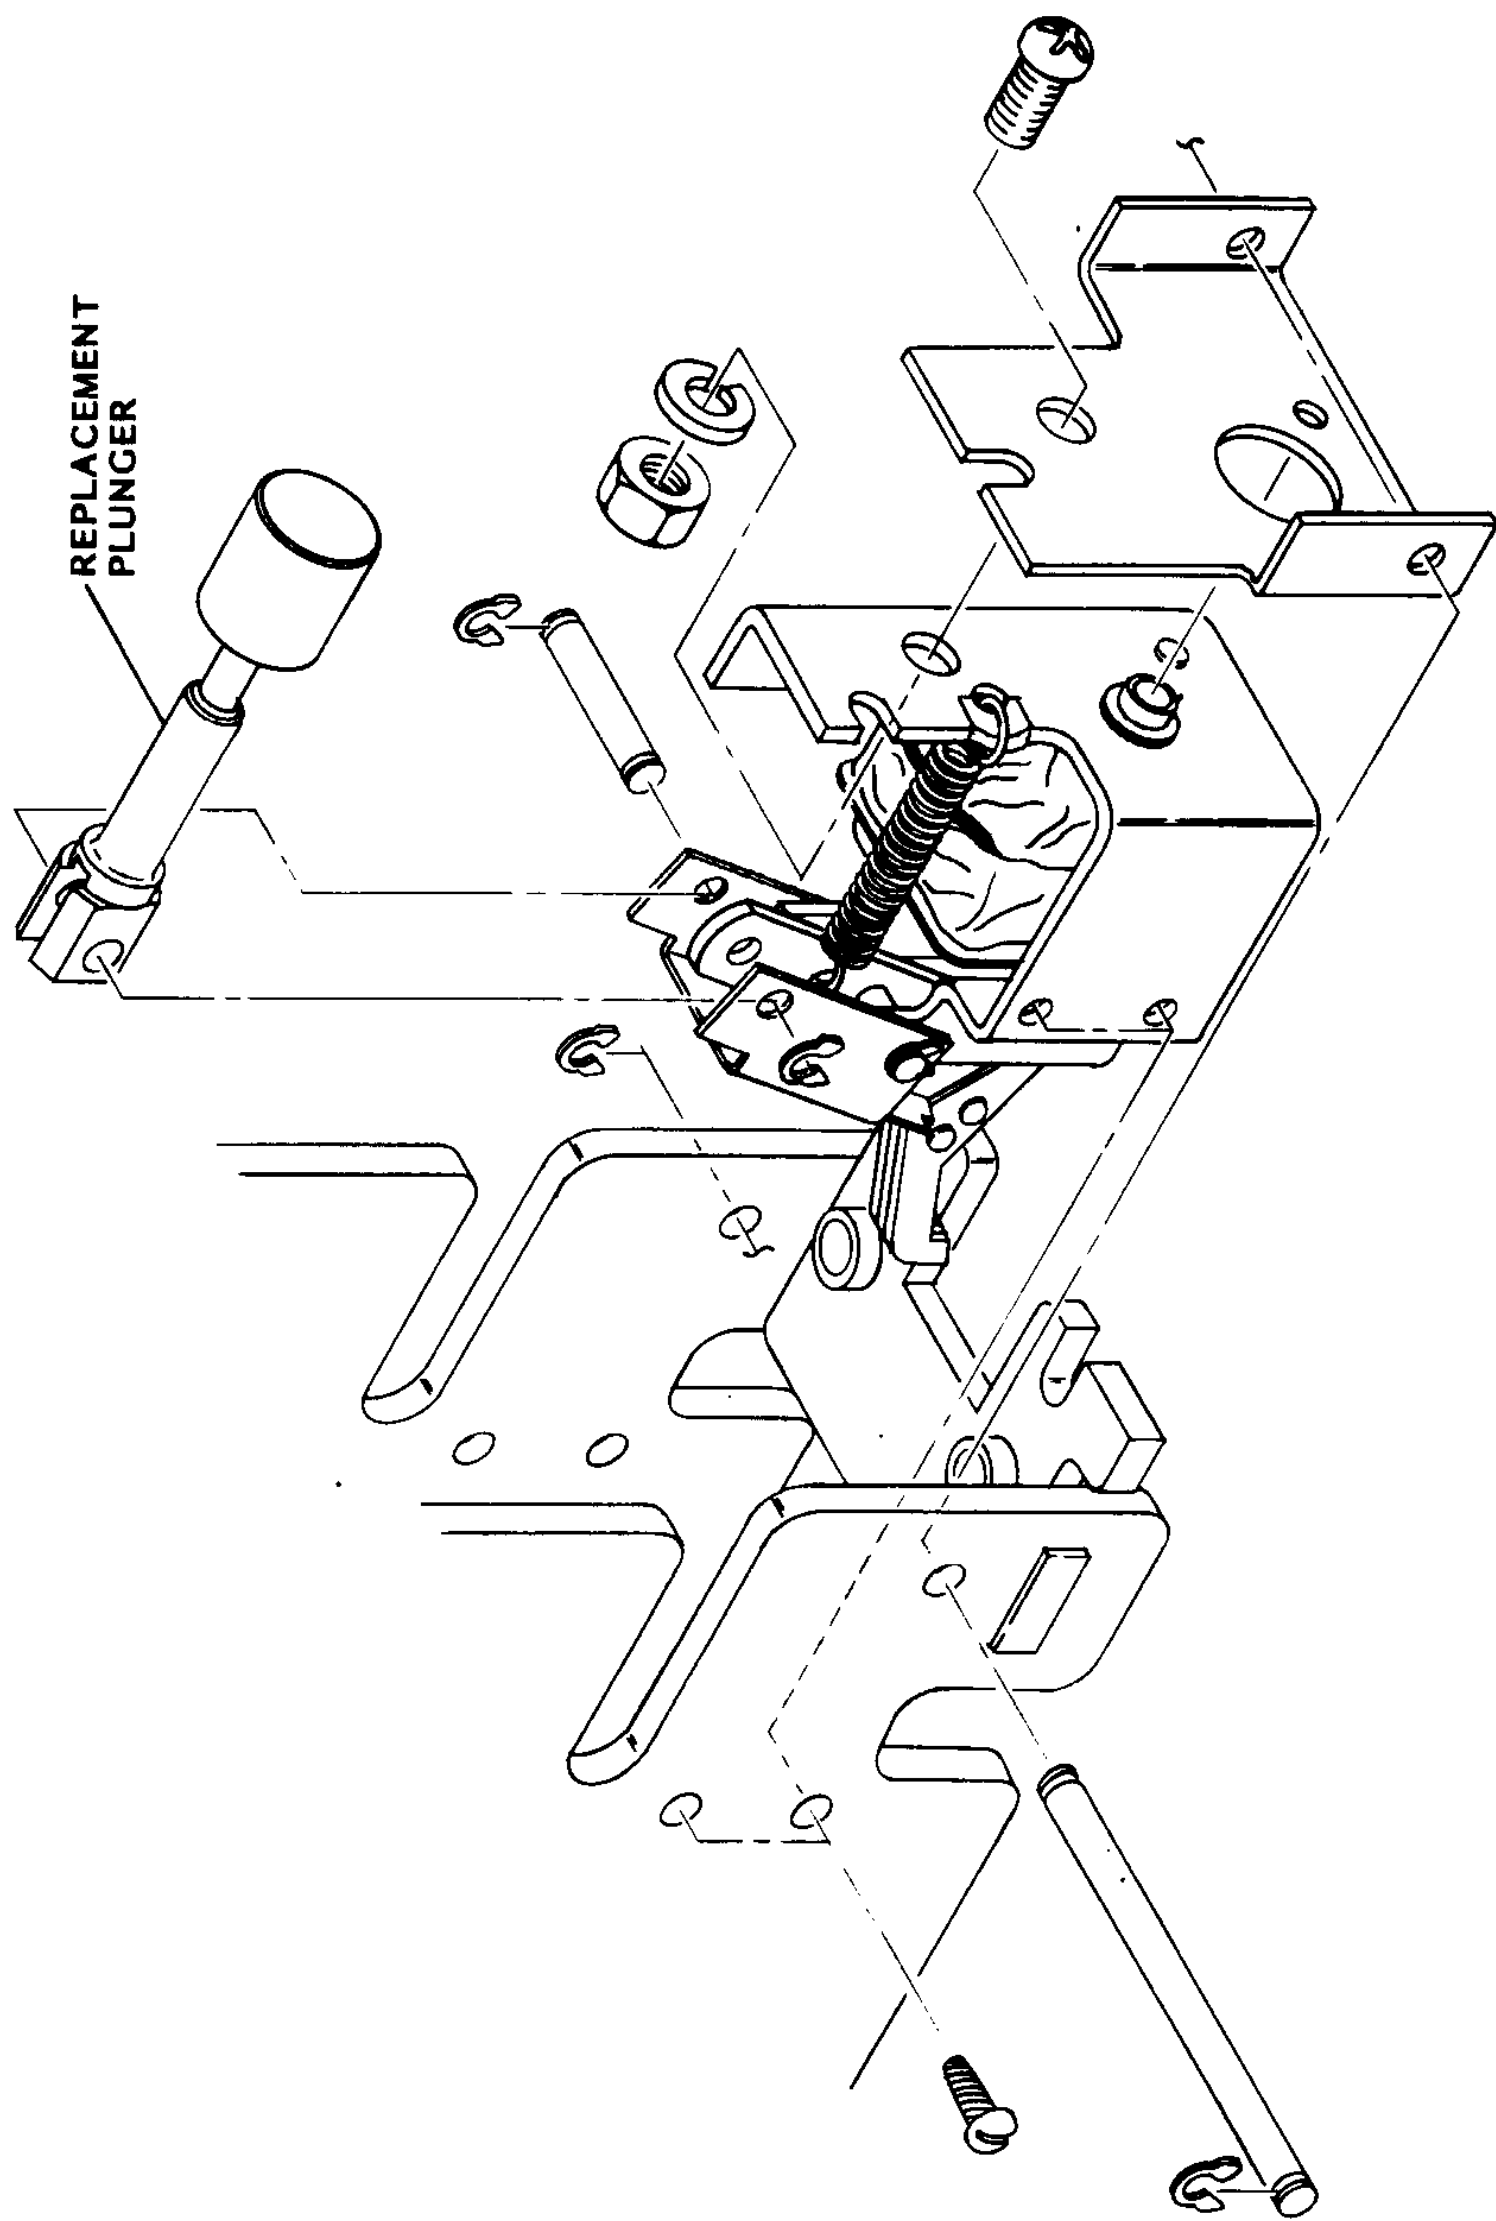

FIGURE 1
3. Remove the solid state box and escutcheon panel. Remove the magnetic latch (Figure 1). If equipped with horizontal magnetic latch, remove the entire horizontal mag latch assembly by removing two screws and one 7/16 inch nut from left side support.